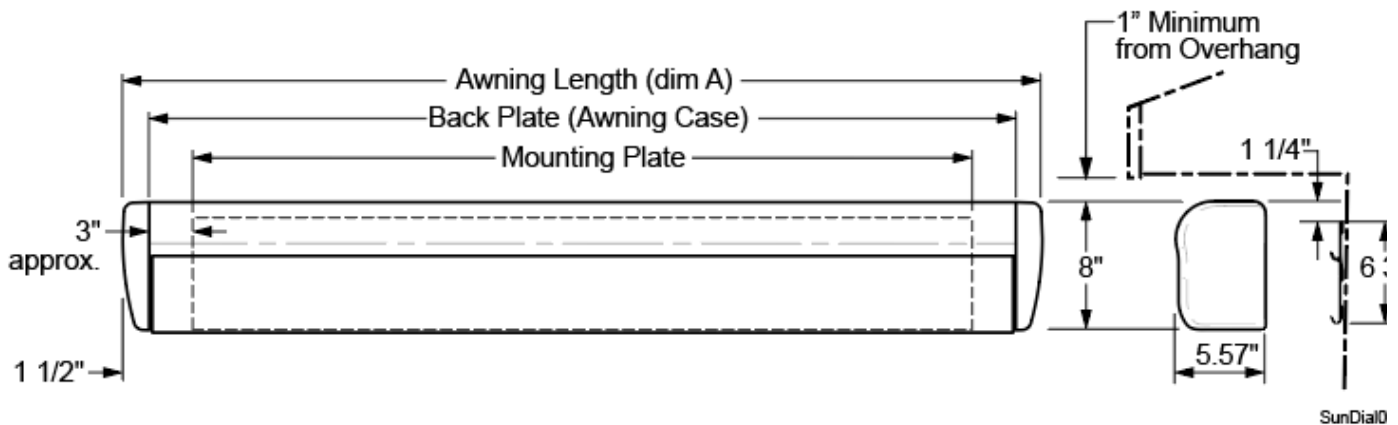

Figure 1
- General profile dimensions are shown in Figure 1
- The mounting plate is 7 1/2" shorter than the awning; 6" shorter than the back plate. (Reference Figure 1). Do not modify the length of the mounting plate.